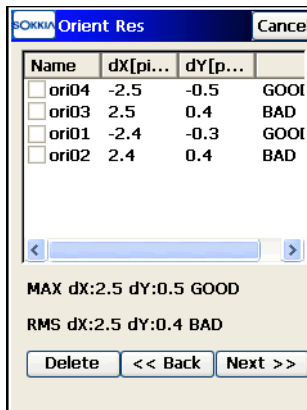

Figure 8-63. Orientation Results
- View the image orientation results on the ***Orient Res*** screen (Figure 8-63). The results for each Orientation Point is displayed as  $dX$  and  $dY$  in image pixels.